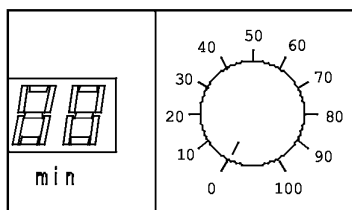

Fig. 12
- Set the potentiometer on the DR 100 to the desired feed speed (dependent on the material to be divided). **Fig. 12**